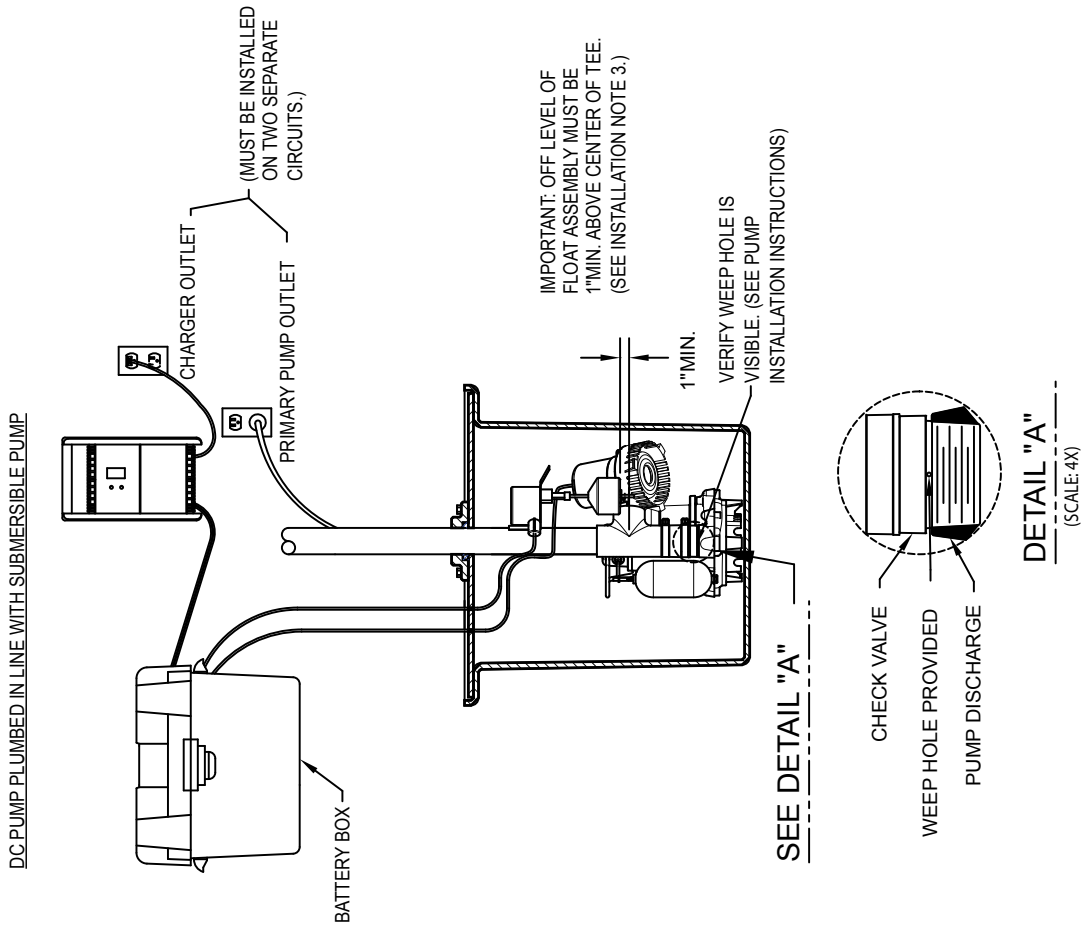
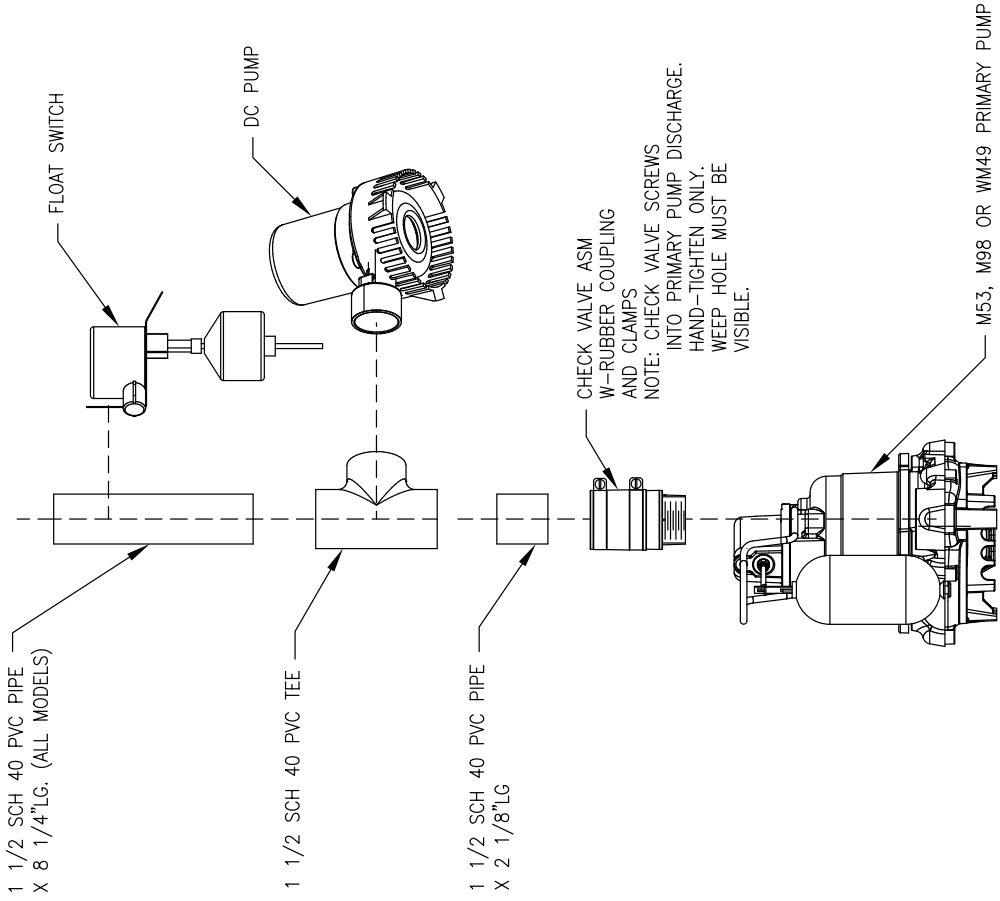

FIGURE 1
FIGURE 2
1. The preferred method of installation for backup pumps is shown in figure 1. The installation kit includes one check valve for installing with the backup pump discharging into the primary pump outlet pipe. An additional check valve is incorporated in the discharge of the backup pump.
3. Make certain the float switch clamp is tight on the pipe to avoid slippage. Use electrical tape below the clamp to help prevent the clamp from moving. Ensure that the "off" level of the float is 1" min. above the discharge tee of the DC backup pump (see figure 1). Position pumps in the sump and move float up and down, making sure of free movement without interference from any obstructions inside the sump or lid. Very shallow sumps may require some adjustment to avoid overflowing or backing up of water into the sump inlet. The float switch can be moved on the discharge pipe or the rubber stops can be adjusted as necessary. Cut extra float rod length below lower float stop to prevent debris from interfering with float operation (see figure 2).